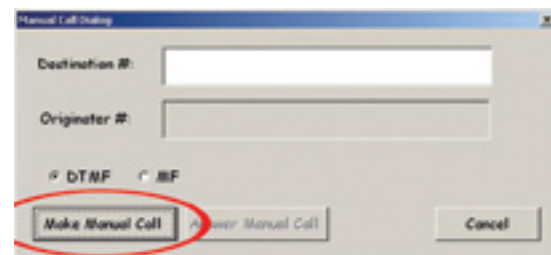

Figure 41
10. Without leaving the main test window use the ‘Span’ pull down menu in the upper left hand corner to switch span selection back to PCM 1, Channel 1. Click the “Manual” button. This action launches the “Manual Call Dialog” box. Because the selected test on PCM 1, Channel 1 is a director only the “Make Manual Call” button is active (see figure 41). To manually place the Send/Measure Tone test call click the “Make Manual Call” Button. To run the tests, press the “RUN” button on PCM 1, Channel 1 and PCM 2, Channel 1.